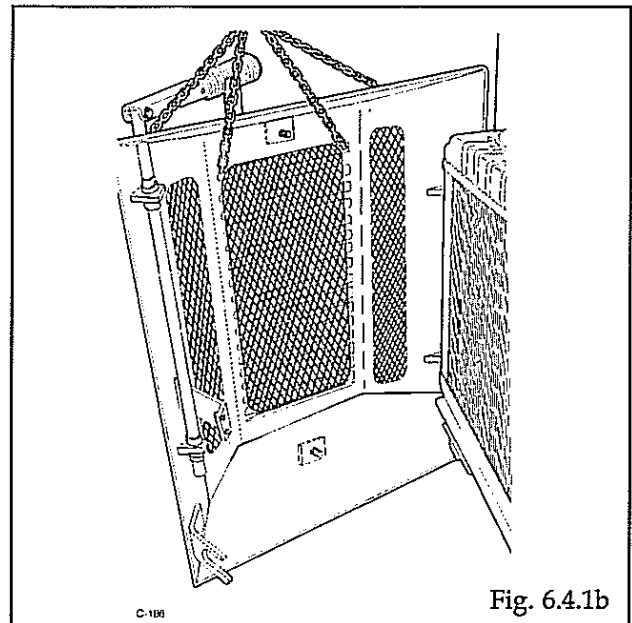

Fig. 6.4.1b
2. Attach chains and a chain hoist to the rear door (Fig. 6.4.1b). Lift the rear door with the chain hoist clear of the hinges. Remove the door from the loader.
1. Attach chains and a chain hoist to the rear door (Fig. 6.4.1b). Raise the rear door with the chain hoist and install the rear door on the loader.